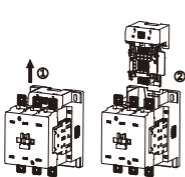
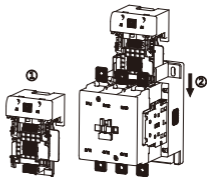

Figure 11 The removal method of the coil
Figure 12 The installation method of the coil
(5)The installation and removal methods of the coil are shown in Figure 11 and Figure 12.